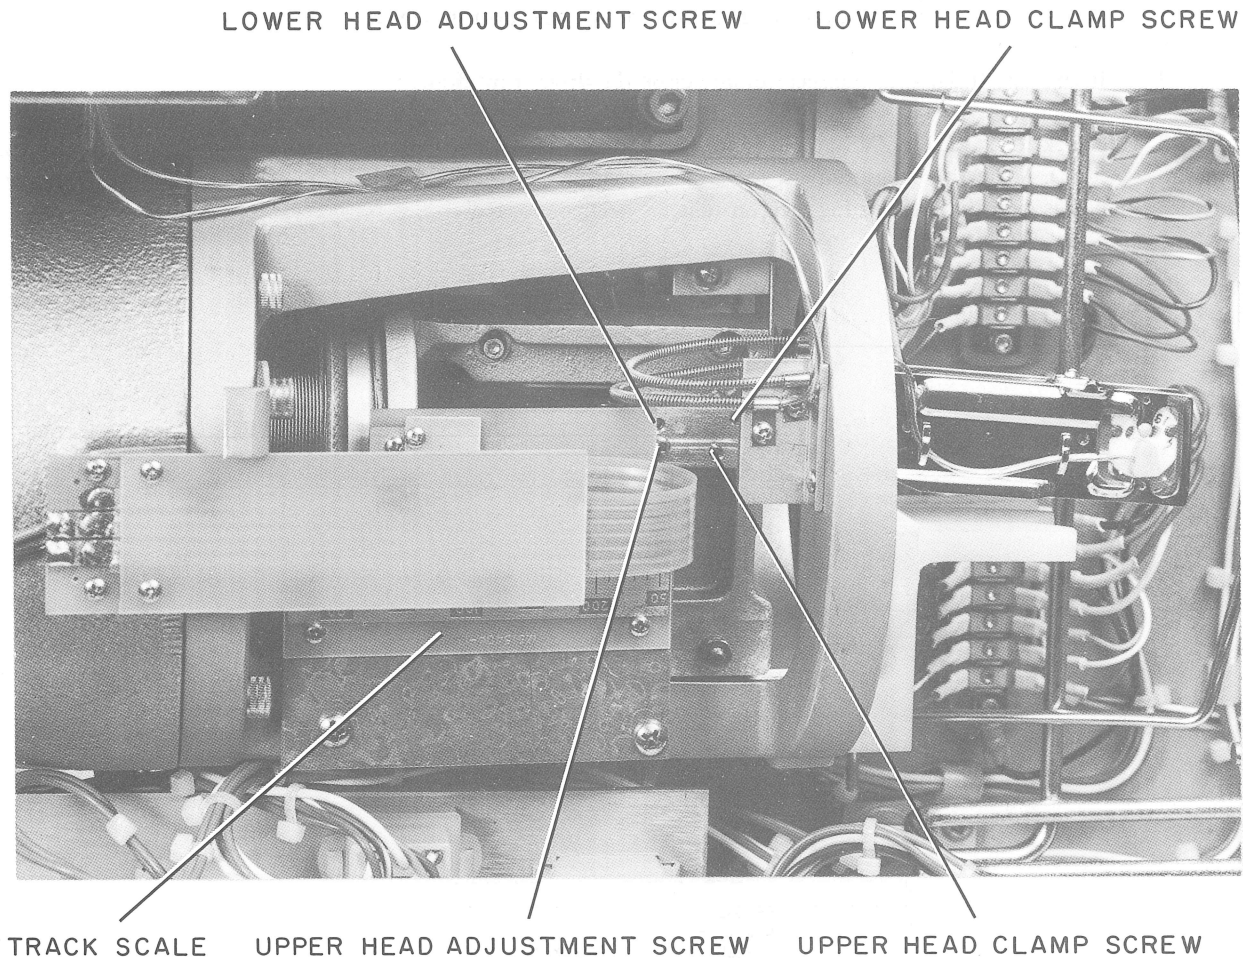

Figure 5-20 Read/Write Head Adjustments
- d. Loosen the clamp and adjustment screws (Figure 5-20) and move the head in the appropriate direction until the "right on" waveform is obtained and the scale indication is slightly greater than 105.